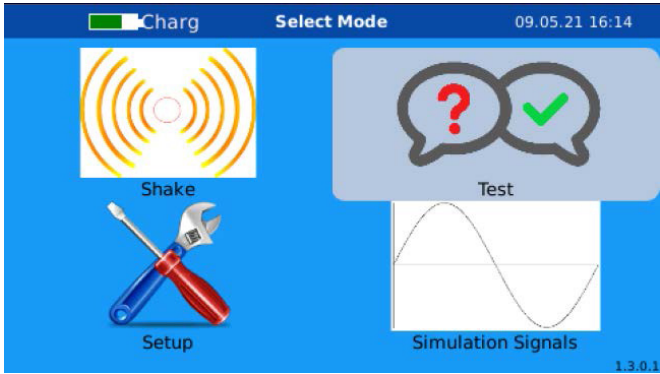

Figure 13. Select "Test"
- 1. Select **Test** from the main menu (Figure 13).